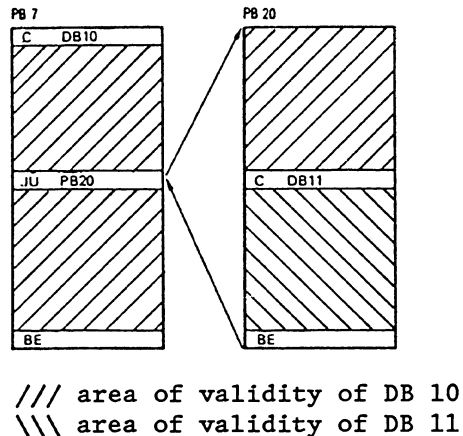

Fig. 9 Area of validity of a selected data block
If a further program block is called by a program block in which a data block has already been addressed, and another data block is addressed in this second program block, then this second data block is only valid in the program block which has been called. Following the jump back to the first program block, the old data block is valid again (see Fig. 9).
**Example** (see Fig. 9)